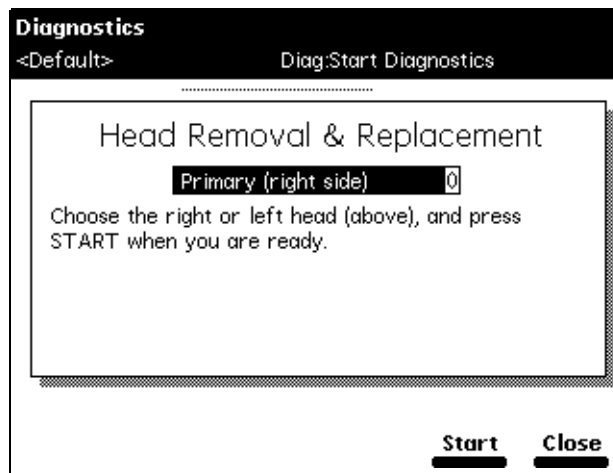

Figure 8-14 Head Removal and Replacement Screen
1. Select **Head removal & replacement** in the Other Diagnostics screen, then press the **OK** screen key. The Head Removal and Replacement screen appears (Figure 8-14).